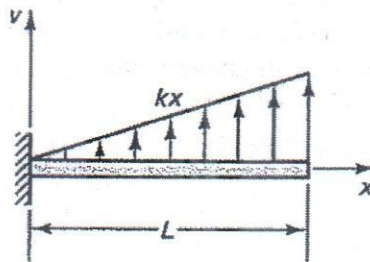

Fig. 15
- (b) Determine the equations of the elastic curve for the beam shown in Fig. 15 due to the applied loading for the given boundary conditions. EI is constant. (15)